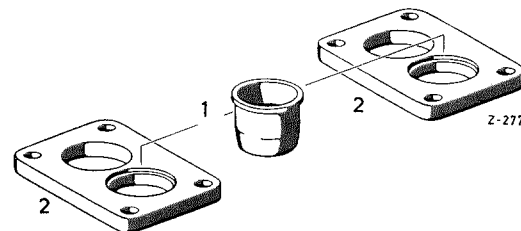

Fig. 01-4/2
Note: When the grey cast iron flange was installed, it was necessary to dispense with the upper insulating flange so as not to change the installation height of the carburetor. By way of compensation, a standard paper gasket, Part No. 180 071 00 80, is installed on these carburetors between the carburetor flange and the screening plate (Fig. 01-4/3).
6. Install the lower insulating flange, and in the case of Models 220 a and 219, the gasket on the intake pipe (Fig. 01-4/3).
On Model 220 S insert the air jet (1) in the first Stage bore of the upper insulating flange (2) (Fig. 01-4/2).